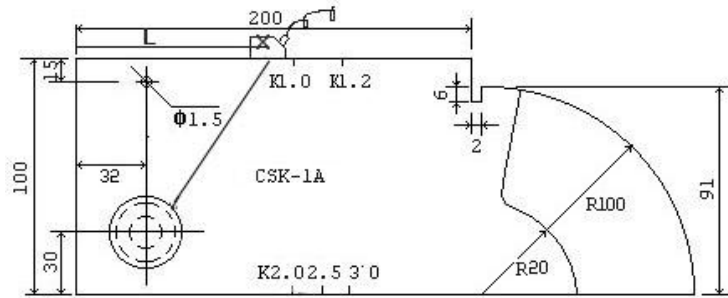
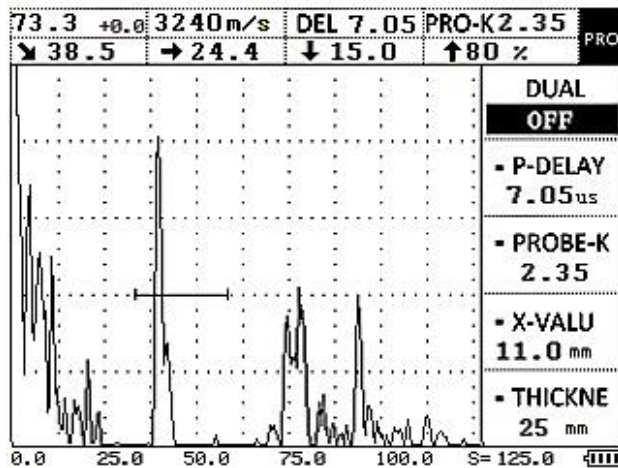
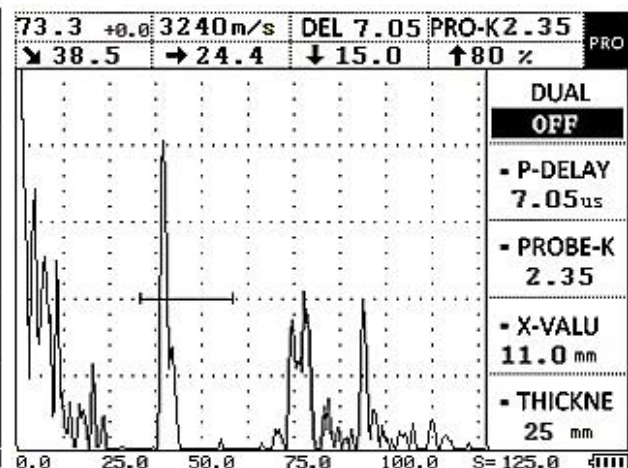

Figure 4-7
Figure 4-8
Figure 4-9
5. Calibrate the probe K value (angle): couple the probe to the CSK-IA test block and move it back and forth, as shown in Figure 4-7, till the reflection echo of the circle of $\phi 1.5\text{mm}$ reaches the highest level, the vertical deep value is shown on the upper right, and if the value is not equal to 15 mm, As shown in Figure 4-8, press **PROBE** to enter the probe menu, press  (up) or  (down) to select the probe K value submenu, then press  (left) or  (right) to adjust and make the value equals to 15 mm, or direct press **PEAK MEM** to calibrate the K value automatically, see the figure 4-9.